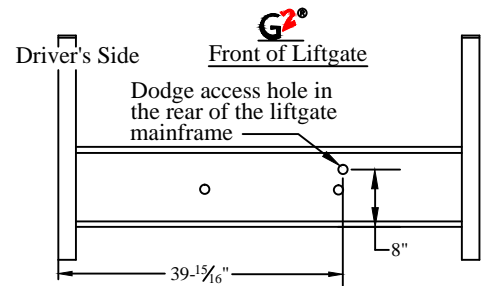

Figure 16: G2 spare tire access.
2. **Remove** the black plastic plug from the mainframe in the location shown (Figure 16).